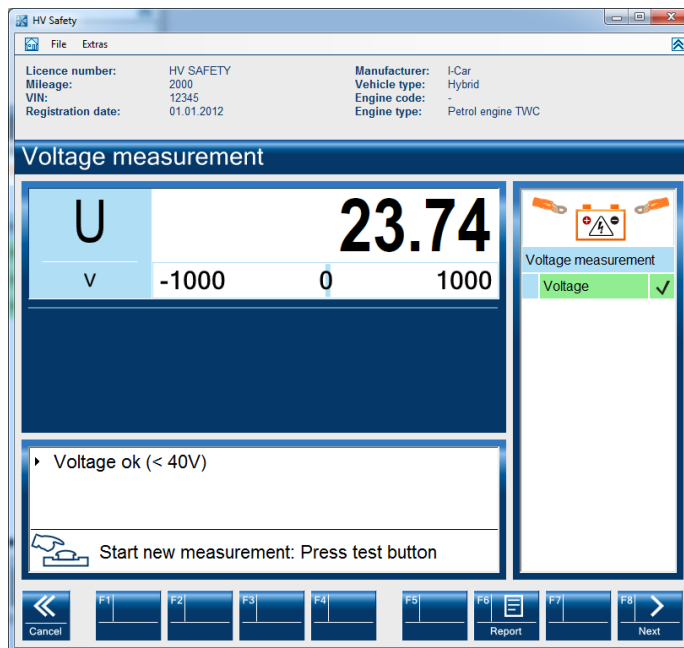

Fig. 3-3
6. The result of the measurement is displayed, see Fig. 3-3 .